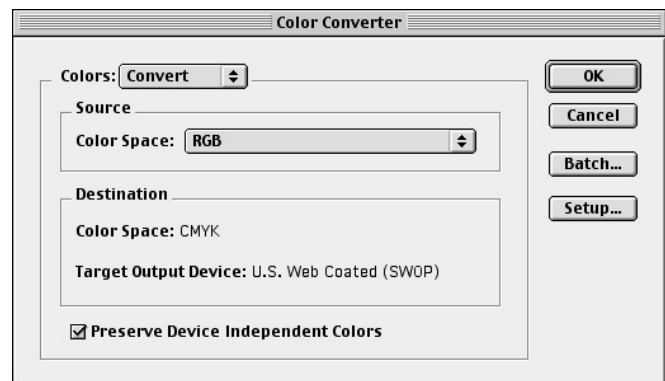

FIG. 4: In the Color Converter dialog box the user specifies the target output color space.
- Color Converter (FIG. 4). The color converter tool uses industry-standard ICC color profiles to convert LAB, RGB or CMYK into CMYK. The user can also tag or untag CMYK images with the necessary ICC profiles for a given output device.